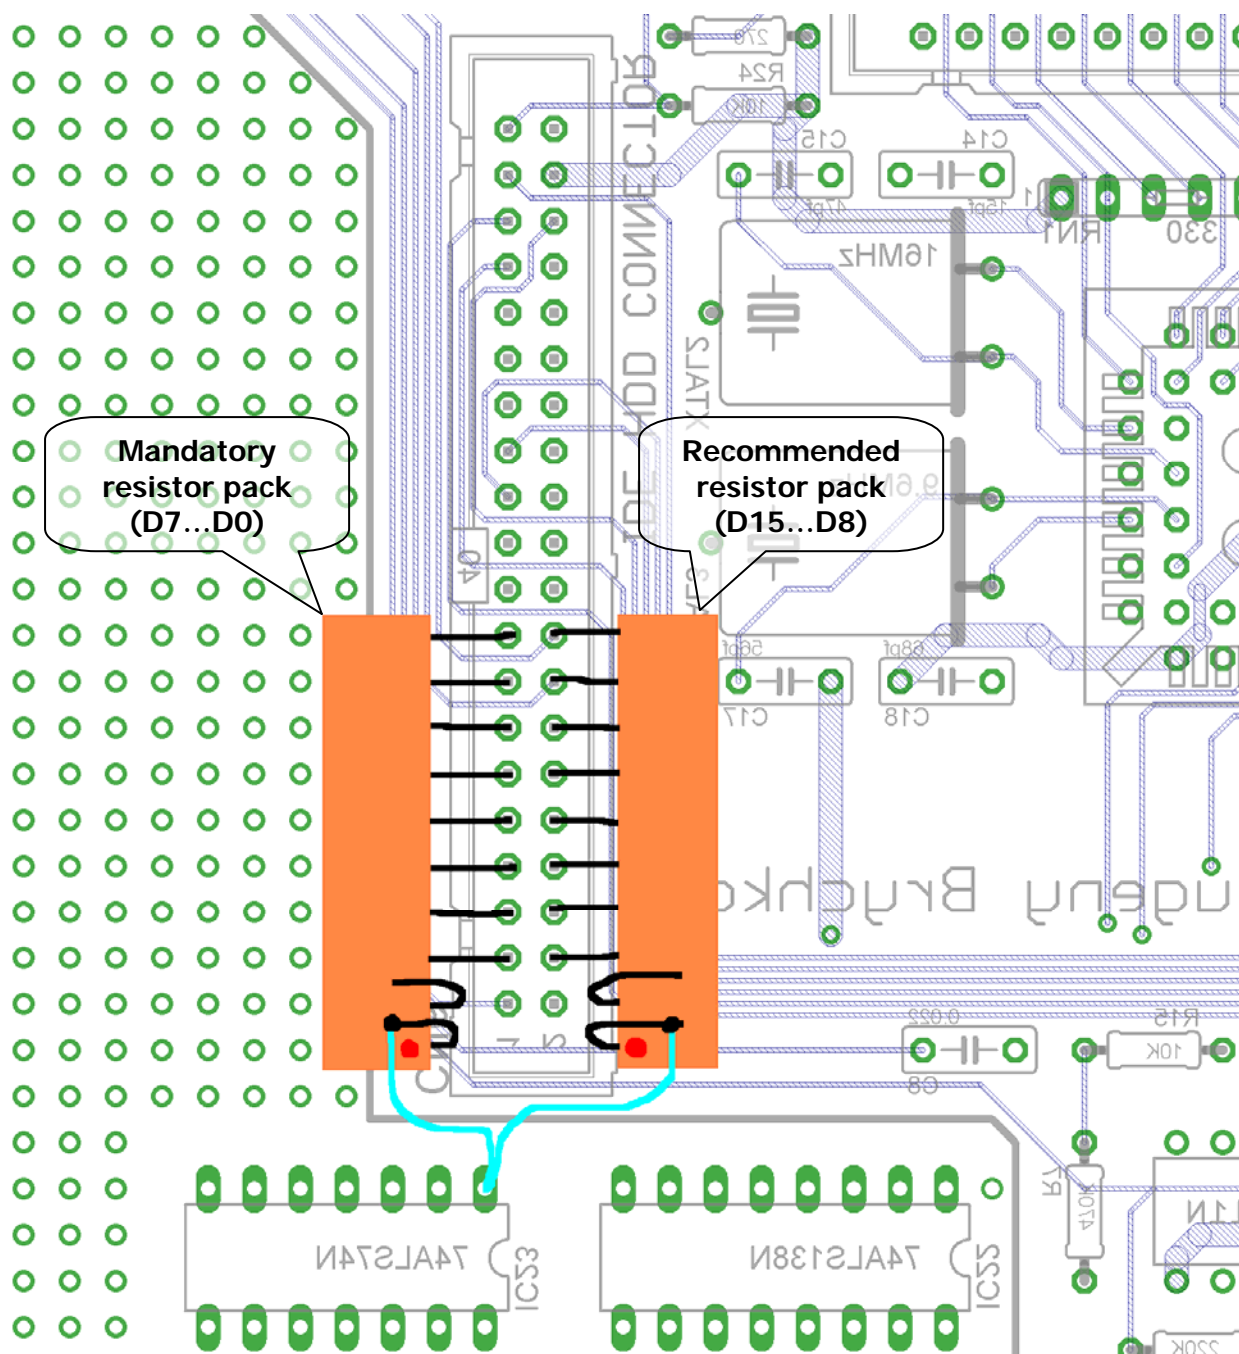

Figure 6.5. Resistor packs soldered to the IDE connector (board's solder side)
2. Solder resistor packs as shown on the fig. 6.5.